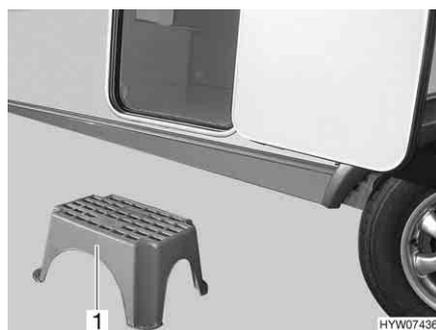

Fig. 19 Entrance step (free-standing)
- Place the entrance step (Fig. 19,1) in front of the entrance to the caravan.